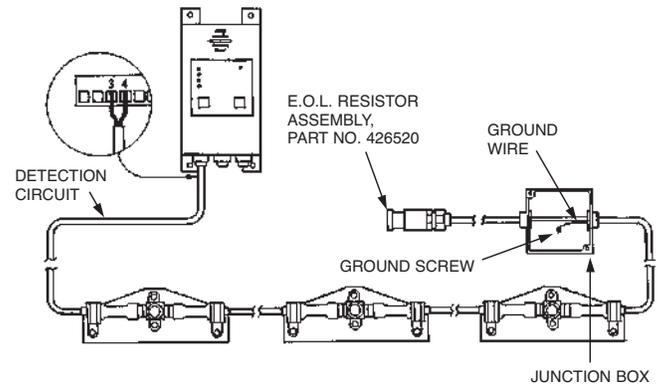

FIGURE 30
14. Attach the ground wire to the vehicle ground. Do this by mounting a sealed junction box in a convenient, protected location. The box must be mounted to a rigid support. Run the detection circuit cable to the box and attach to grounding screw. See Figure 30.
15. Attach the end-of-line resistor assembly, Part No. 426520. See Figure 30. See instruction sheet included with end-of-line resistor shipping assembly for detailed assembly information.